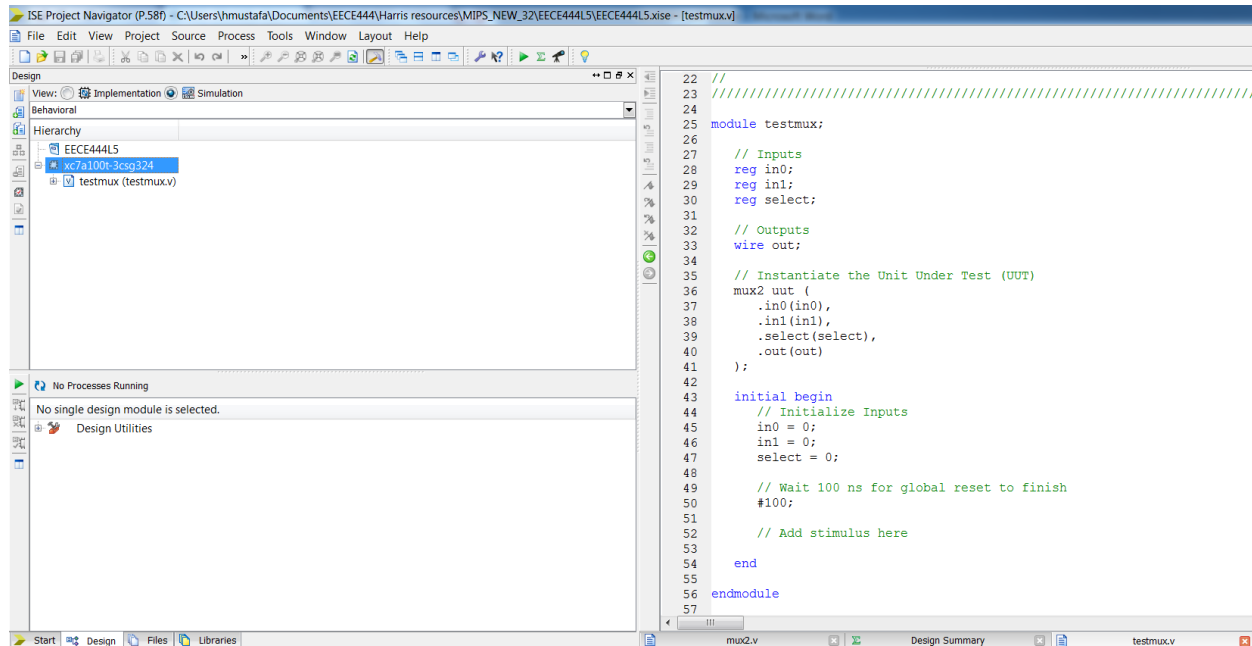

Figure 3
2. Create a new source “Verilog Test Fixture” source and associate it with the only Verilog source you have “mux2.v”. You should have a window similar to figure 3 below after you finish.